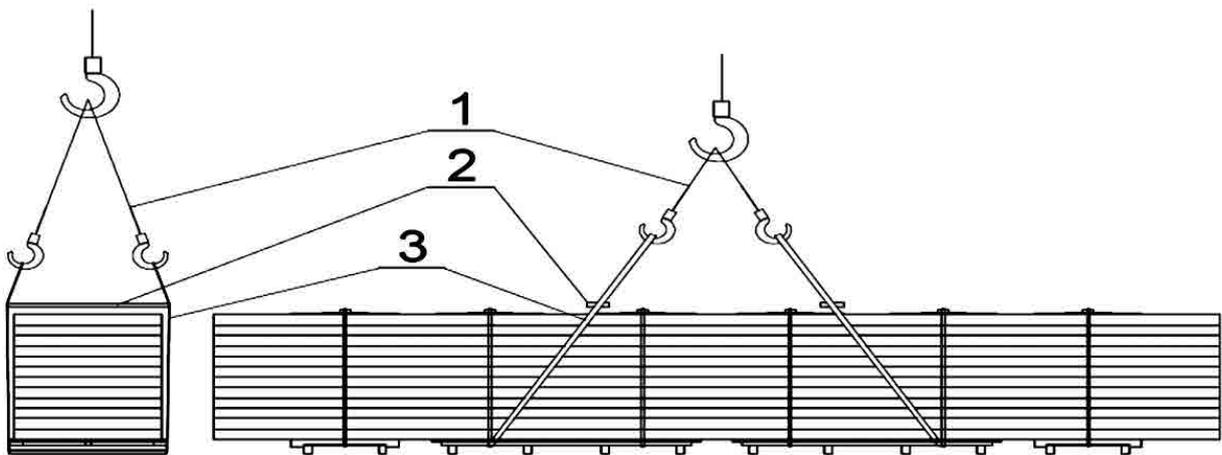

Fig. 2. Unloading of panels of  $\leq 8.7$  length, where: 1 – transport sling, 2 – wooden separator, 3 – lifting sling
- When lifting the packages with cargo straps, attached to the load-carrying wooden pallets, use 1.2 m long wooden spreaders – fig. 2, to keep the straps spacing wider than the package, to prevent the top panels from damaging. Attaching the straps to polystyrene pallets is prohibited.